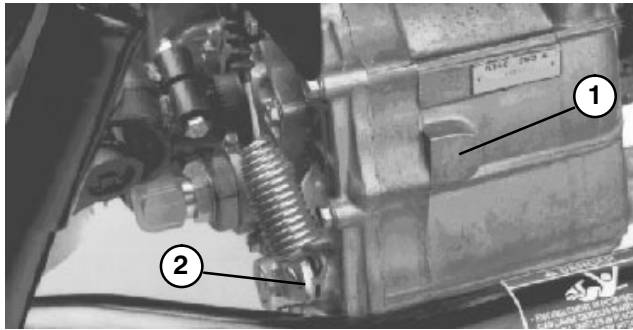

Figure 44
CHANGING TRANSAXLE / HYDRAULIC FLUID (Fig. 44)
2. Remove drain plug (Fig. 44) from side of reservoir and let hydraulic fluid flow into drain pan.